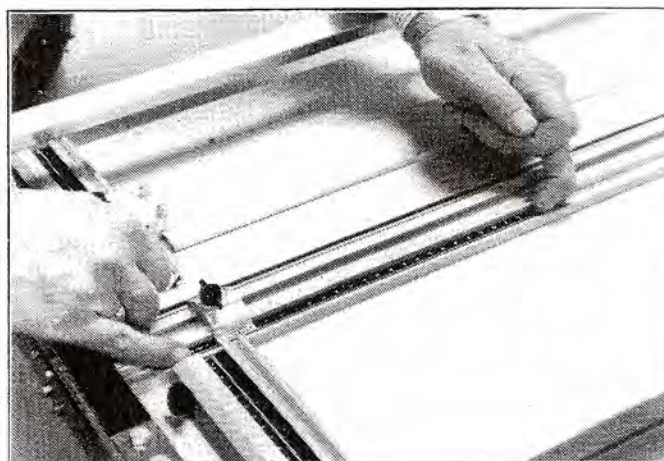

Fig. 6
7. If the reading on the end-of-cut scale (11) is not precisely the same as the corresponding measurement on the mountboard, re-calibrate the end-of-cut scale by sliding it within the slideway (19) until the reading at the end-of-cut stop (12) coincides exactly with the above measurement (fig 6). **DO NOT** move the end-of-cut stop.
8. If the reading on the margin guide scale (14) is not precisely the same as the corresponding measurement on the mountboard, re-calibrate the margin guide scale by sliding it within the slideway (19) until the reading at the margin guide stop (15) coincides exactly with the above measurement. Do not move the margin guide stop.